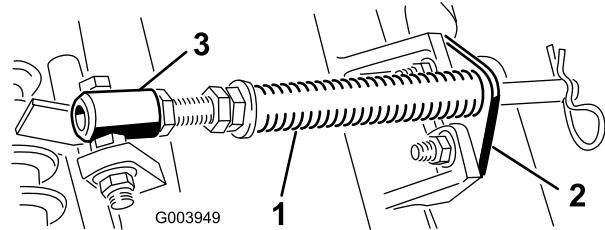

Figure 4
- A. Remove the 2 carriage bolts and nuts securing the rod bracket to the cutting unit tabs (Figure 4).
- Remove the flange nut securing the spring tube bolt to the carrier frame tab (Figure 4) Remove the assembly.
- Mount the spring tube bolt to the opposite tab on the carrier frame and secure with the flange nut. The bolt head is to be positioned to the outer side of the tab as shown in Figure 4.